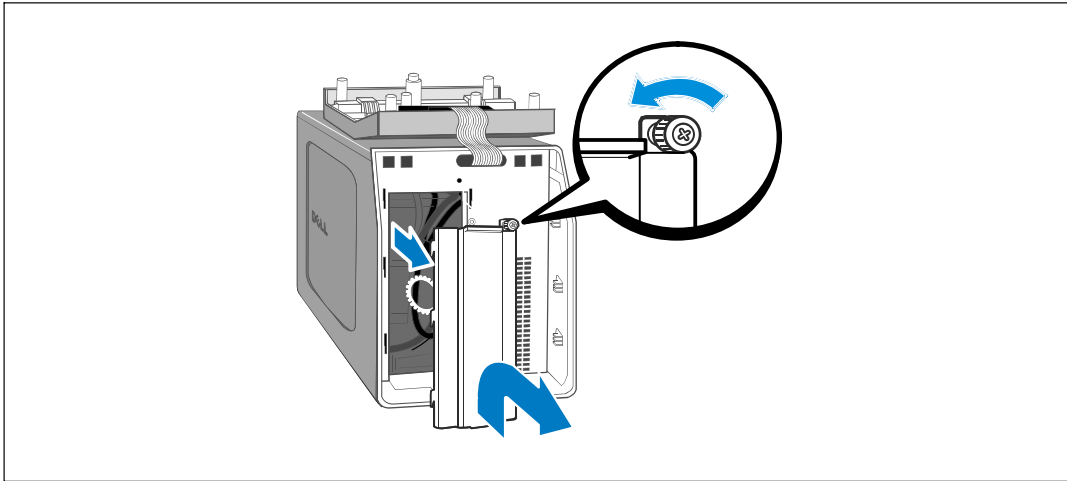

Figure 25. Removing the Battery Cover
- 3 Unscrew the thumbscrew on the the metal battery cover and remove the cover (see Figure 25).